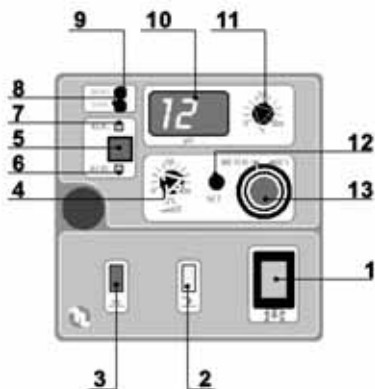

Fig. 26
10.4 - COMANDI POMPA DLS-PH (Fig.26)